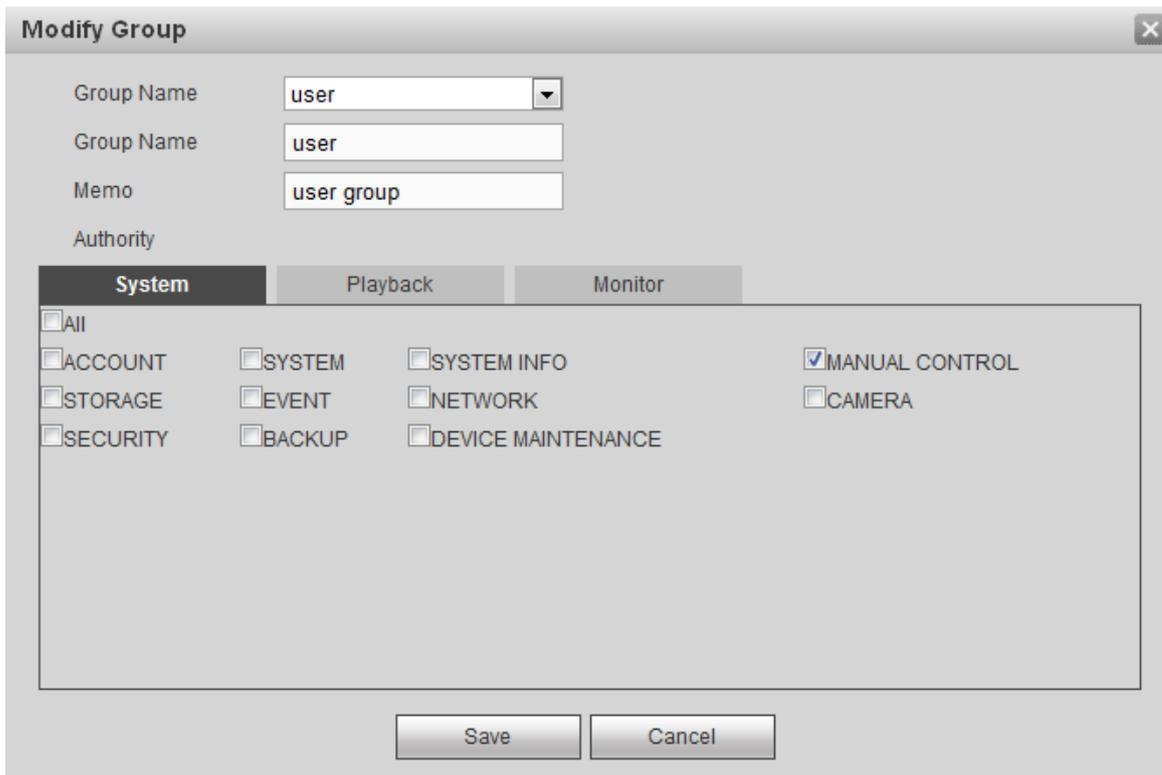

Figure 3-136
Step 1 Select a group and then click . See Figure 3-136.